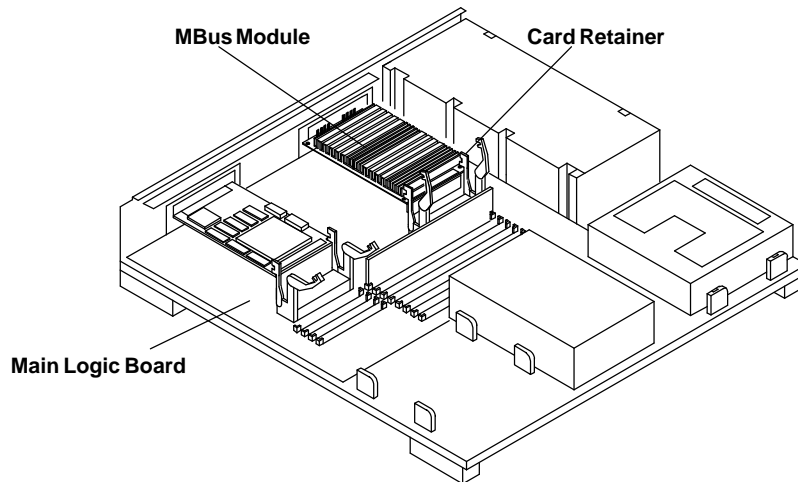

Figure 3-10. Locking Down Card Retainers for the MBus Module
6. Lock the arms of the card retainers on the module by pushing them over the edge of the module as shown in Figure 3-10.